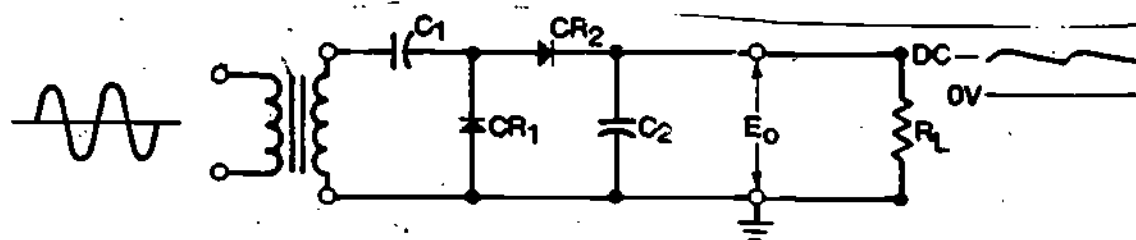

figure 6
- ⑥ The multiplier schematic shown in Figure 6 is that of a half-wave voltage doubler. It is called a doubler because the multiplier's output voltage is twice that of the transformer peak secondary voltage. Since the output capacitor is charged only once during each input cycle the multiplier is called a half-wave voltage doubler.